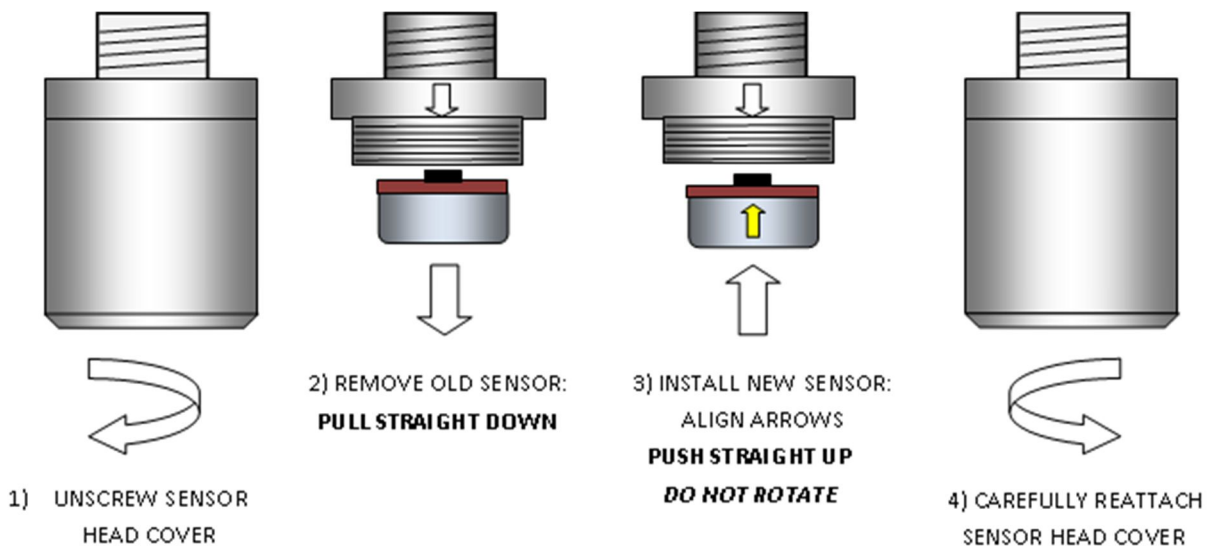
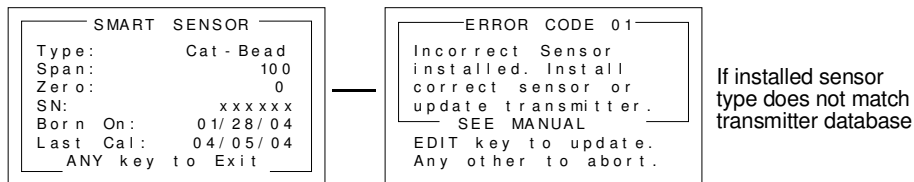

Figure 6-1: Sensor Replacement
Figure 6-2: SMART SENSOR Recognition Screen
- Check the SPAN GAS VALUE setting and make sure it matches the calibration gas. (See Fig. 6-2)
To replace a sensor, review Fig. 6-2 and follow these steps (See Fig. 6-1):
Local Smart Sensors are automatically recognized by the GASMAX IIX and the Smart Sensor identification screen shown in Figure 6-1 (left side) should appear immediately after the installation of a local Smart
The System Config group consists of two pages of menus as shown in Figure 6-2. Each item's description follows in this section.
RADIO STATUS opens another screen that shows if the GM IIX is In Range of the Server and what the battery power supply voltage is. Battery voltage is also displayed on the “EC INPUT PG. 2” screen shown in Figure 6-2.